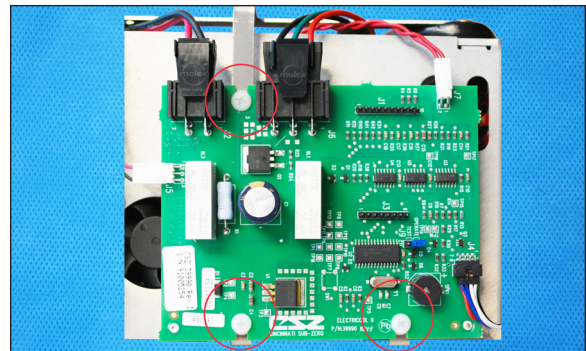

Figure 112 - Step 2 Reinstall three plastic screws
1. Reinstall the three #8 plastic washers onto the thermoelectric bracket assembly (Figure 112).
2. Place the new control board in place and install the three #8-32 x 1/4 " plastic Phillips screws to hold the board in place (Figure 112).